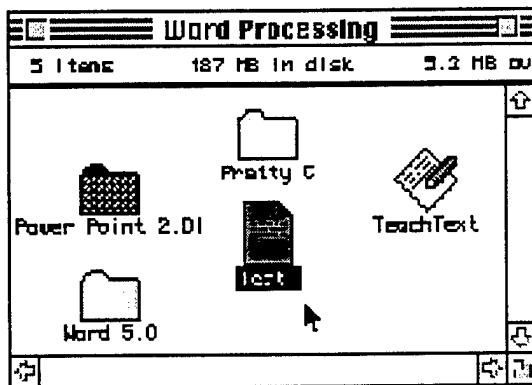

Figure 2.8: Word Processing window now contains a new file, called **Test1**
- Now quit the program by choosing the **Quit** command from the **File** menu. A new file, called **Test1** will appear in the **Word Processing** folder as shown in Figure 2.8.